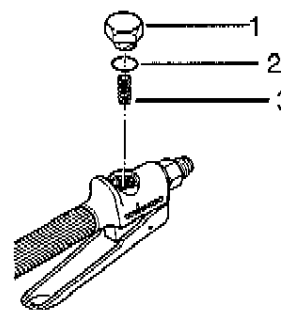

Figure 4. - Gun Valve Assembly
1. Remove Cap, (1), O-Ring, (2) and Spring, (3) for thorough cleaning of gun valve mechanism. (See Figure 4).
3. Assemble in reverse order (See Figure 4).